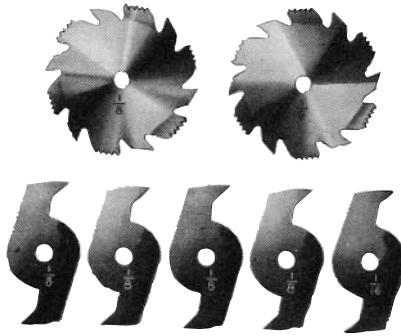
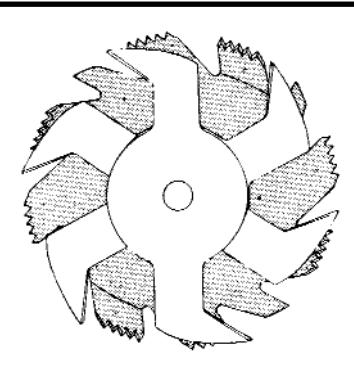
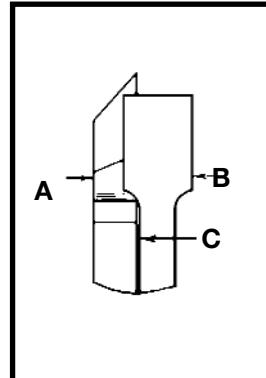

Fig. 48A
Fig. 49
Fig. 50
1. Dadoing is cutting a rabbet or wide groove into the work. Most dado head sets are made up of two outside saws and four or five inside cutters, (Fig. 48A). Various combinations of saws and cutters are used to cut grooves from 1/8 inch to 13/16 inch for use in shelving, making joints, tenoning, grooving, etc. The cutters are heavily swaged and must be arranged so that this heavy portion falls in the gullets of the outside saws, as shown in Fig. 49. The saw and cutter overlap is shown in Fig. 50, (A) being the outside saw, (B) an inside cutter, and (C) a paper washer or washers, used as needed to control the exact width of groove. A 1/4 inchgroove is cut by using the two outside saws. The teeth of the saws should be positioned so that the raker on one saw is beside the cutting teeth on the other saw.